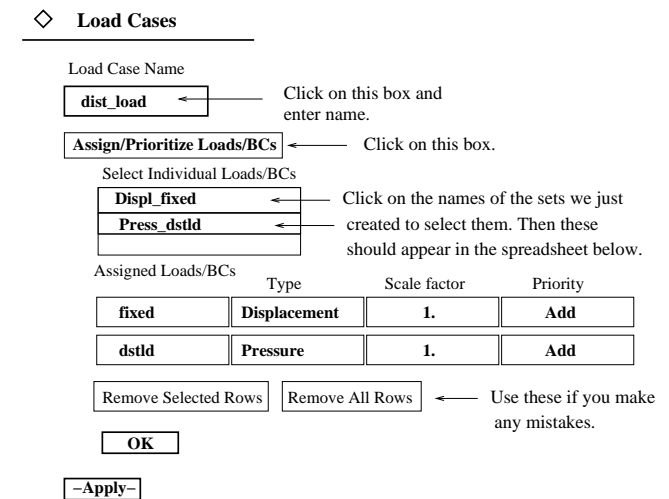

Figure 31: Create a Load case
- Choose the **Load cases**. In the box marked 'Load Case Name' enter 'dist\_load'. Then click on the **Assign/Prioritize Loads/BCs**. This will bring up a new form (Figure 31). From 'Select Individual Loads/BCs' select **Disp\_fixed** and **Press\_dstld**.